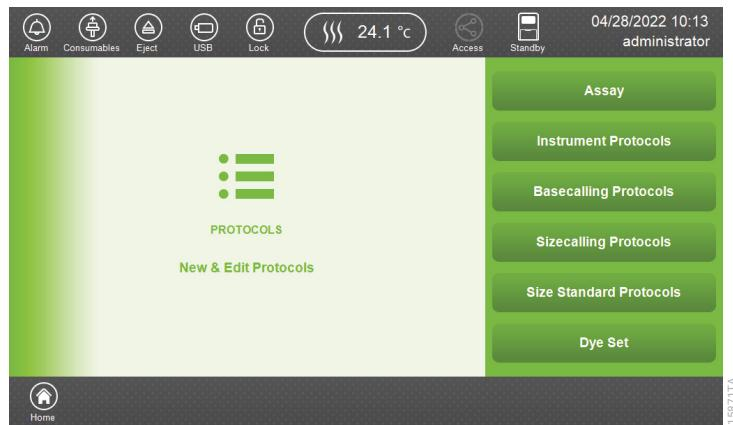
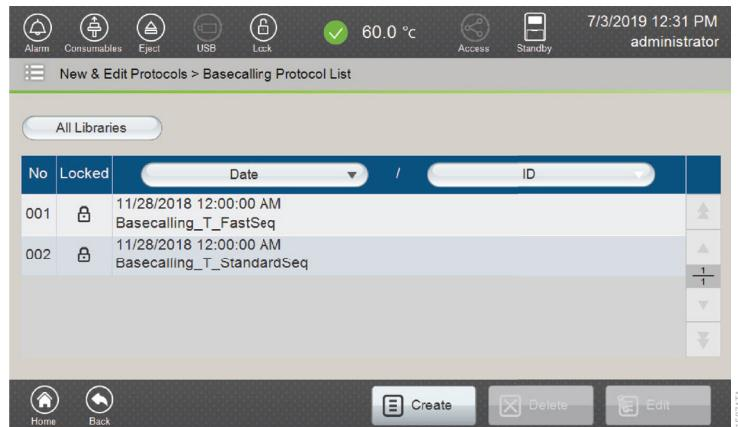

Figure 117. 'New & Edit Protocols' screen.
Figure 120. 'Basecalling Protocol List' screen.
Select **New & Edit Protocols** on the 'Main Menu' screen (Figure 9) to access the 'New & Edit Protocols' screen (Figure 117). Instrument, Basecalling, Sizecalling and Size Standard protocols and Dye Sets should be defined for appropriate applications prior to creating a new assay.
1. Select **Instrument Protocols** in the 'New & Edit Protocols' screen (Figure 117). This will open the 'Instrument Protocol List' screen (Figure 118).
1. Select **Basecalling Protocols** in the 'New & Edit Protocols' screen (Figure 117). This opens the 'Basecalling Protocol List' screen (Figure 120).
1. Select **Sizecalling Protocols** in the 'New & Edit Protocols' screen (Figure 117). This opens the 'Sizecalling Protocol List' screen (Figure 127).